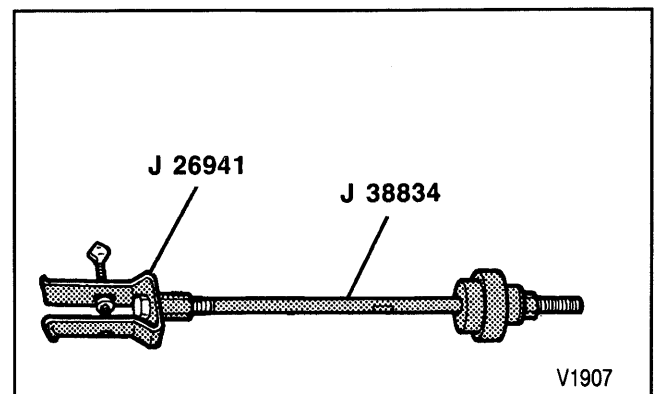

Figure 31—J 38834 Positioned to Remove Balance Shaft Rear Bearing
16. Balance shaft rear bearing using J 38834 (figures 31 and 32).